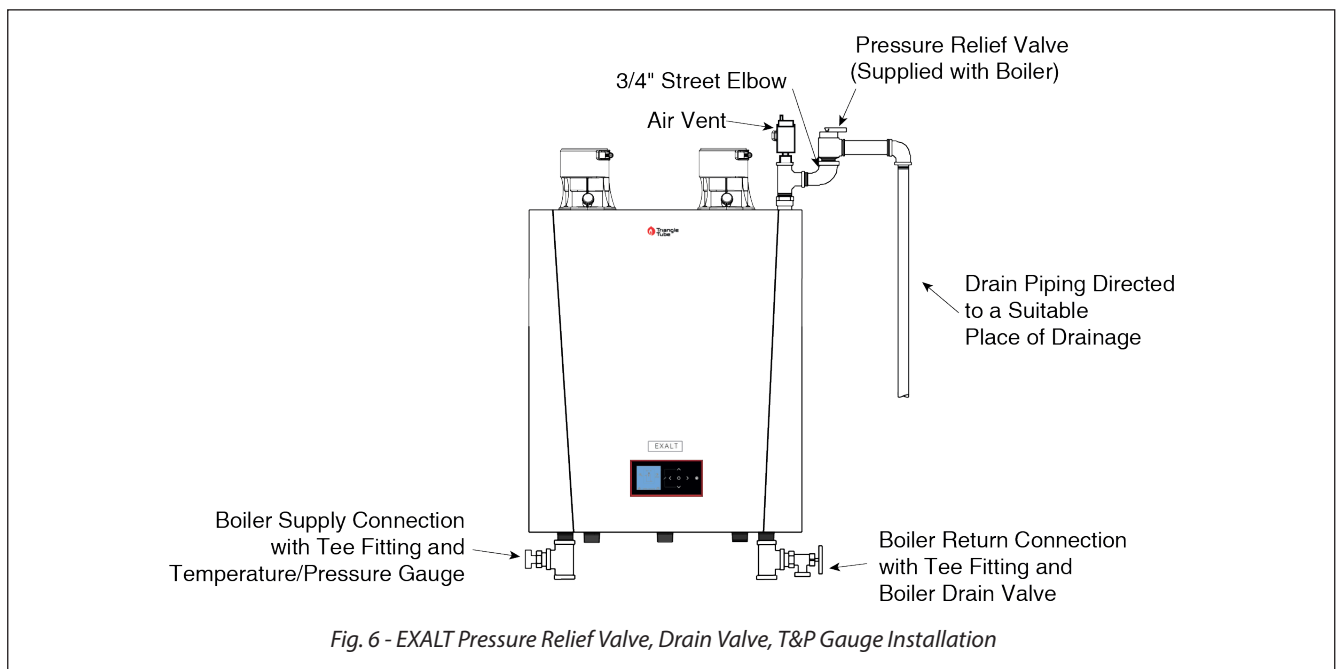

Fig. 6 - EXALT Pressure Relief Valve, Drain Valve, T&P Gauge Installation
1. The EXALT is supplied with a 30 psi pressure relief valve and must be piped using the PRV connection as shown in *Fig. 6 below*.